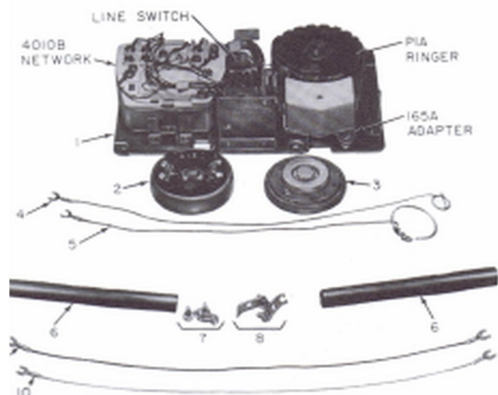
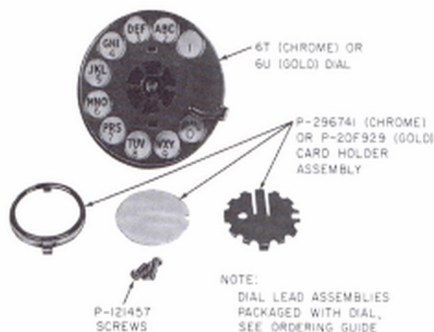

Fig. 1—581A Telephone Set Base and Parts Group
Fig. 2—6T or 6U Dial and Associated Parts
1.01 The 581A telephone set base (Fig. 1), component parts furnished with the base, and a 6T or 6U rotary dial (Fig. 2), ordered separately, are designed for assembling into a customer-supplied housing and handset handle. To add TOUCH-TONE® dial feature, refer to Ordering Guide and 3.06.
- Components listed (Fig. 1) legend and (Fig. 2).
†Includes (2) P-46J245 (white), (1) P-46J532 (black), and (1) P-46J534 (red) lead assembly, P-296741 (chrome) or P-20F929 (gold) card holder assembly, and (3) P-121457 screws (Fig. 2).
- (1) Install 6T (chrome) or 6U (gold) dial (Fig. 2) using three P-121457 screws furnished with dial.
- (2) Connect dial leads furnished with dial in accordance with Table A.
- (1) Intall 6T (chrome) or 6U (gold) dial (Fig. 2) using three P-121457 screws furnished with dial.